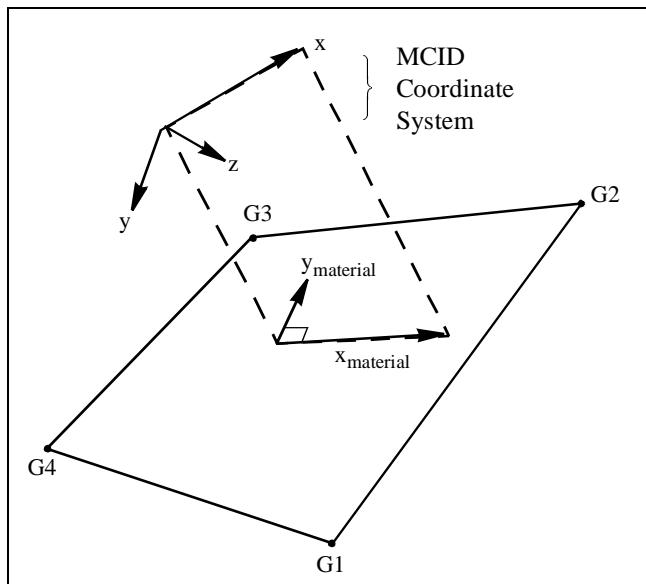

Figure 4-20 CQUAD4 Material Coordinate System, MCID Option
3. When the MCID material orientation option is used, the orientation of the local material coordinate system is determined by the projection of the MCID x-axis onto the plane of the element as shown in Figure 4-20. The material coordinate system (THETA or MCID) and the offset (ZOFFS) may also be specified on the PSHELL entry, and provide defaults if the corresponding CQUAD4 entry fields are blank.